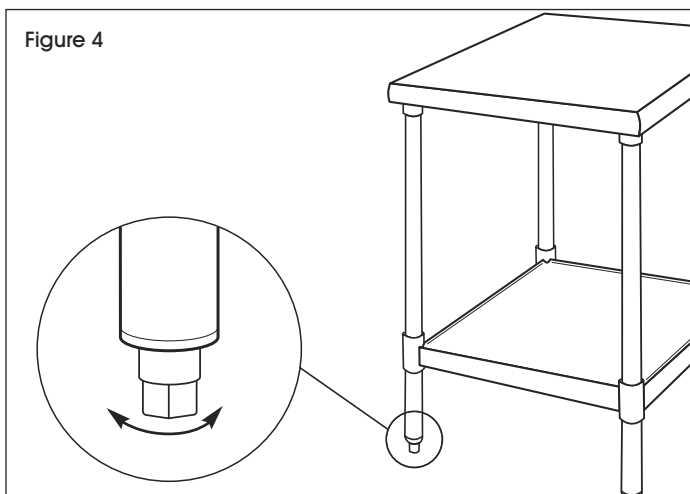

Figure 4
4. Level table with the adjustable feet. Adjustable feet allow approximately 1" of adjustment. (See Figure 4)
- Nivelez la table en ajustant les pattes. Les pattes réglables permettent environ 2,5 cm (1 po) d'ajustement. (Voir Figure 4)